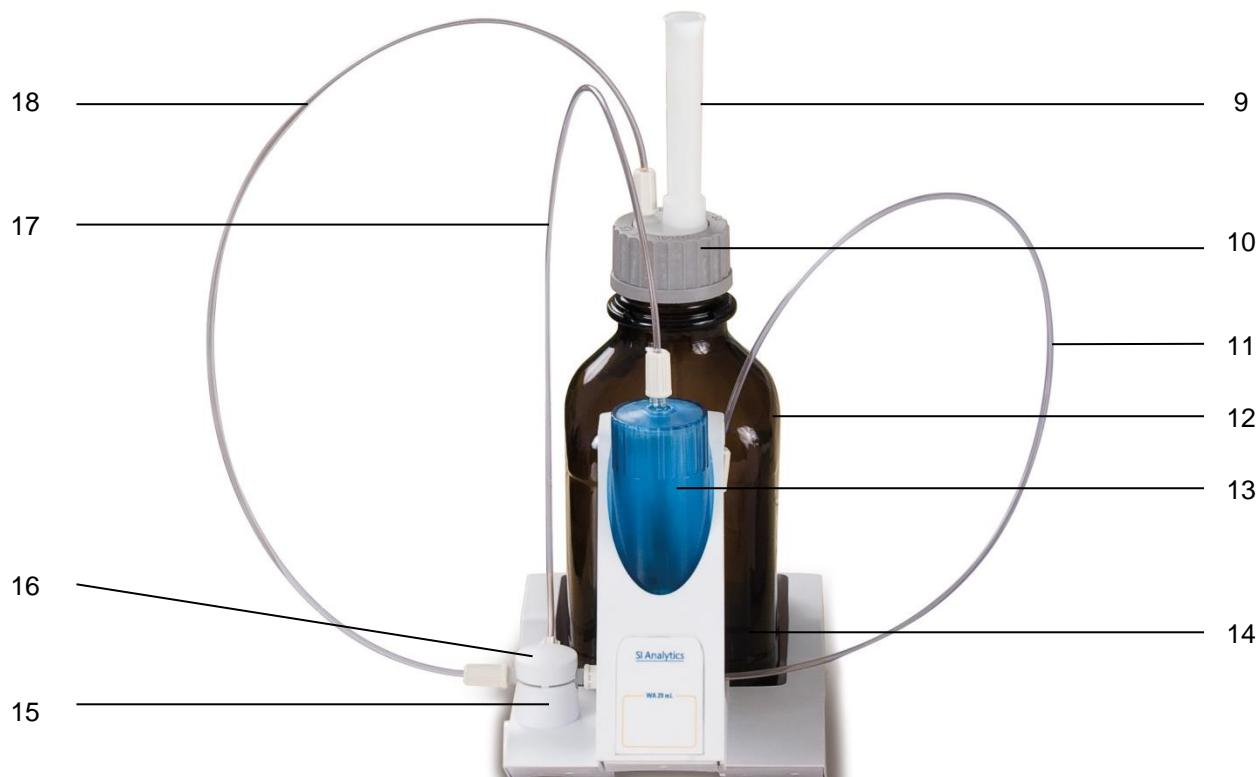

Fig. 15
Fig. 15 shows a completely assembled interchangeable unit.
2. Slip on the valve cover lid on the valve as is shown (Fig. 15).